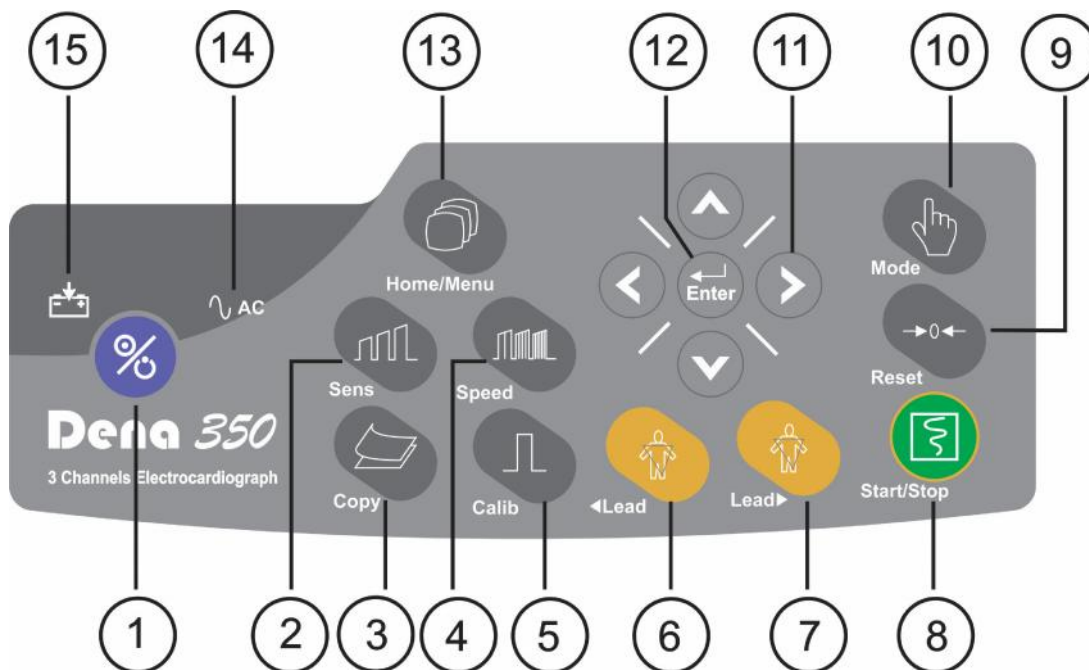

Figure 2-3 Control Panel
The POWER switch (On/Off) is located on the control panel (in Figure 2-3- ①). There are two indicators for power and battery on the control panel. The green power indicator lights up when the device is powered on (in Figure 2-3- ⑭).
The battery indicator Turns into green when the battery is fully charged, yellow when it is half charged, otherwise it is red. (in Figure 2-3- ⑮).